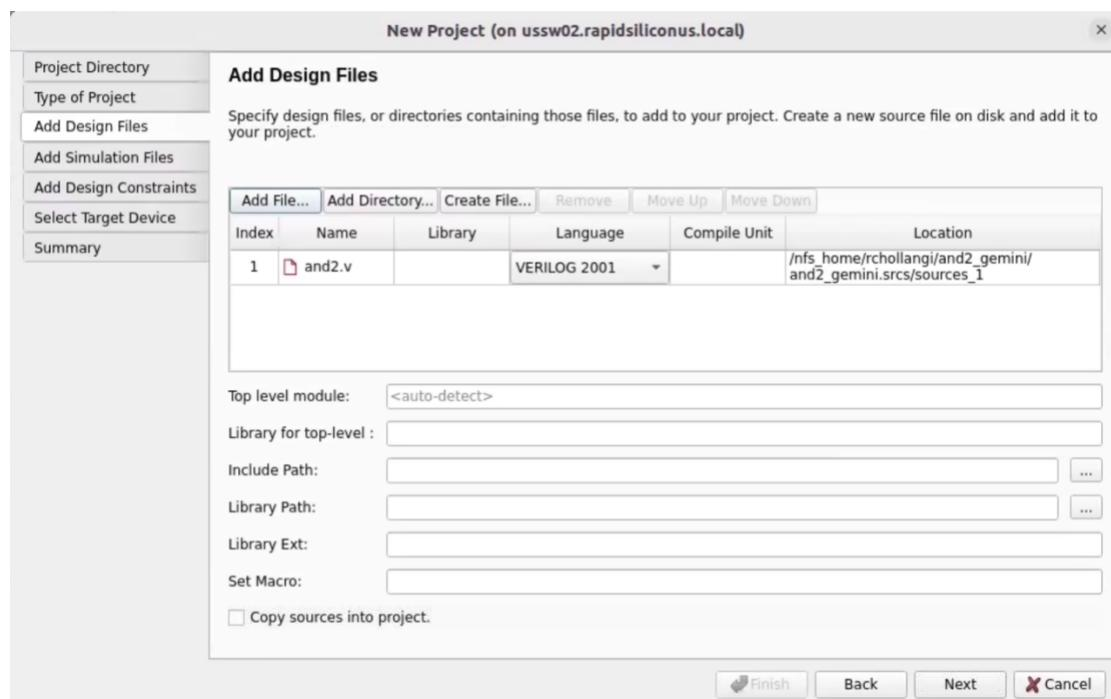

Figure 16. Add Files to the Project
7. Once the design files have been added, the wizard shows the file(s) that will be added to the project. The user is also presented with various options as shown in Figure 16.